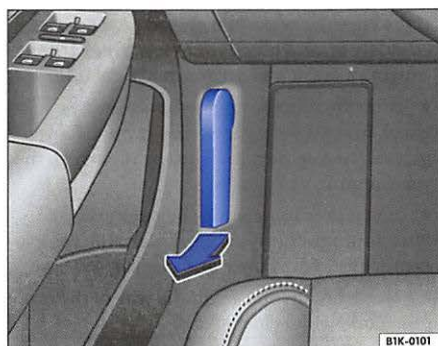

Fig. 4 Detail of the footwell: the release lever for the engine hood is located in the footwell on the driver side
- Pull the release lever underneath the instrument panel in the direction of the arrow ⇒ **fig. 4**. The engine hood is released from its latch by a spring mechanism ⇒